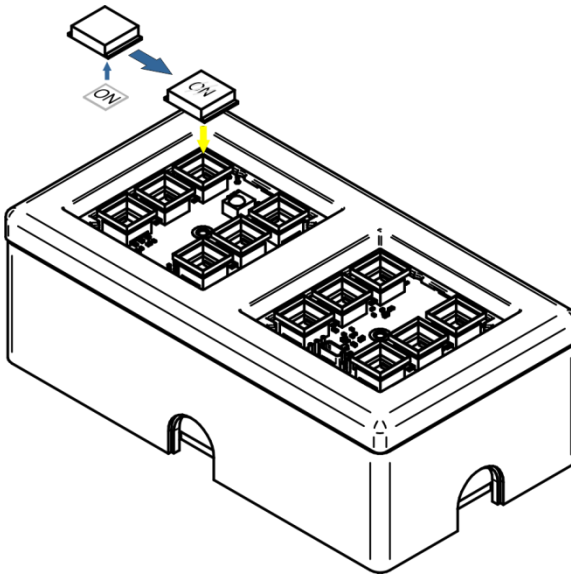

Figure 10: Placing the Button Caps and Mounting the Device
6. Retaining this orientation, place each button cap, with the label to its correct button (see Figure 10).